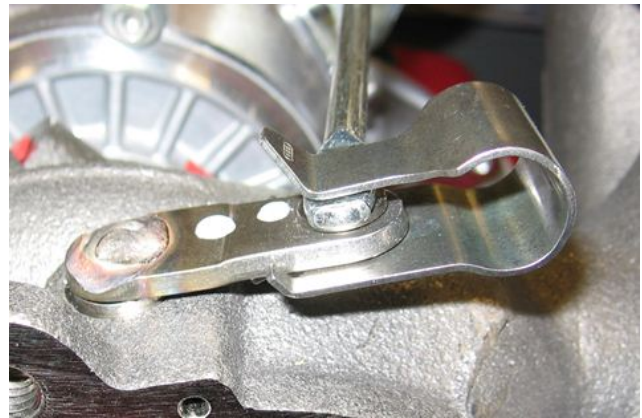

Figure 5. Correctly-fitted clip.
5. After fitting the spring clip, check for correct fit (Figure 5).